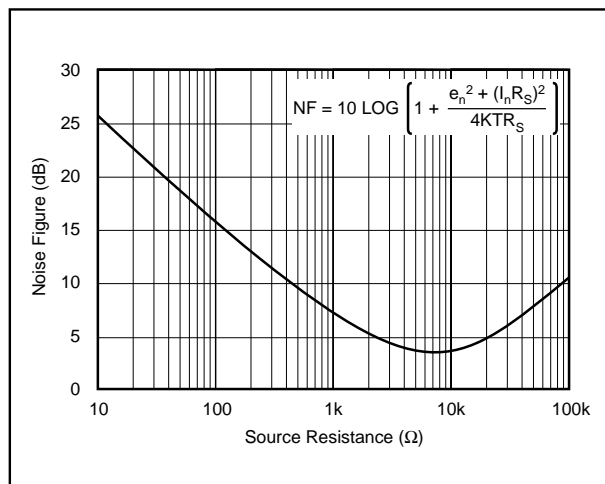

FIGURE 7. Noise Figure vs Source Resistance.
The OPA2650 voltage spectral density is specified in the Typical Performance Curves. For RF applications, however, Noise Figure (NF) is often the preferred noise specification since it allows system noise performance to be more easily calculated. The OPA2650's Noise Figure Vs Source Resistance is shown in Figure 7.